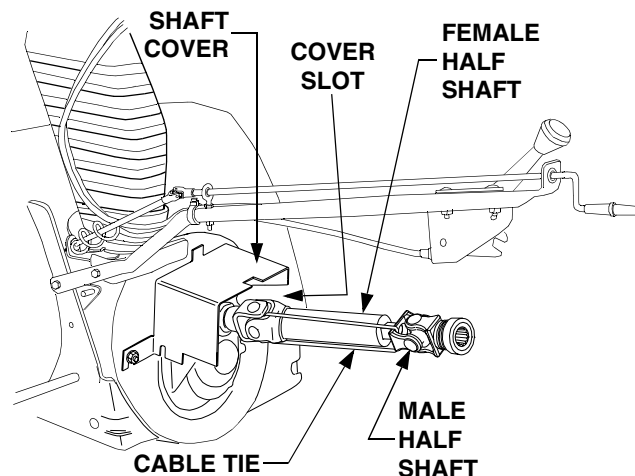

Figure 7
2. Cut the cable tie holding the two halves of the drive shaft together and slide the male half from the female half (See Figure 7).
3. Pivot the female half shaft to the *right* and place in the slot in the *right* side of the shaft cover (See Figure 7).